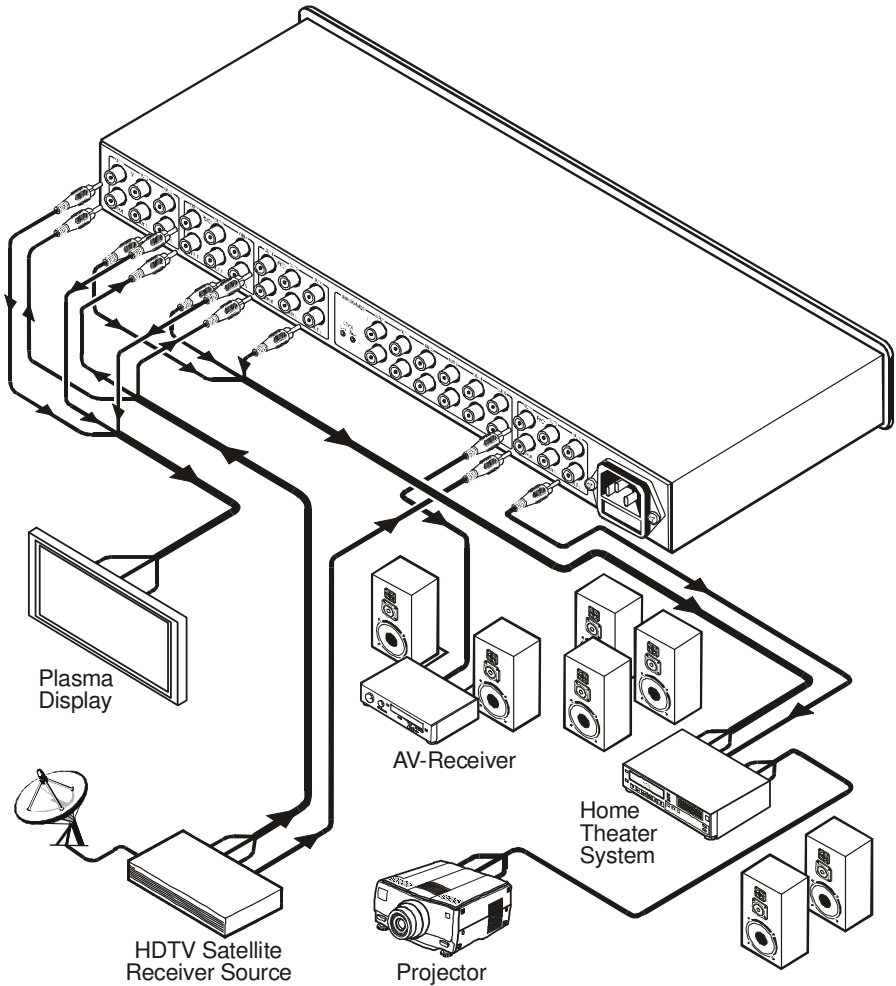

Figure 3: Connecting the VM-50CA 1:5 Video Component / Audio Distributor
To connect a **VM-50CA** unit as the example in Figure 3 illustrates, do the following¹:
3. Connect the power cord (not shown in Figure 3)⁴.
3 Alternatively, or in addition, connect the ANALOG AUDIO RCA connectors (not shown in Figure 3)